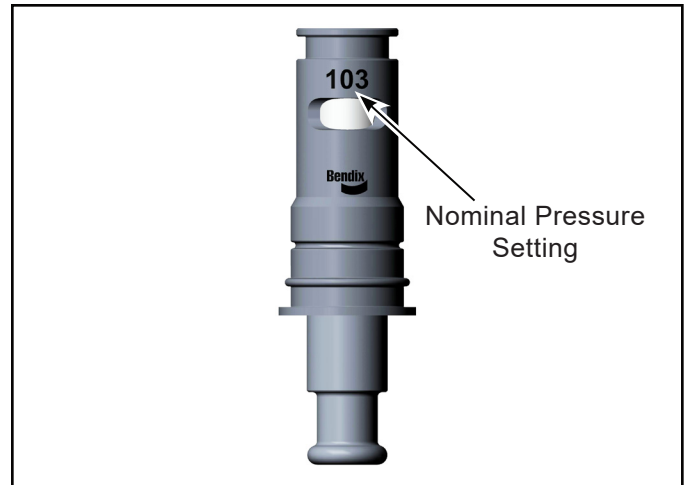

Figure 3 - CPPV Pressure Setting
1. Lubricate the o-rings (1 and 3) with the supplied grease (6). **Note:** Use only the grease packaged with this kit.
2. Install the smaller o-ring (1) into the groove on the upper portion of the CPPV body (2). Install the larger o-ring (3) into the groove on the lower portion of the CPPV body (2).
3. See *Figure 3*. **Note** the nominal opening pressure of each CPPV included in this kit and install each CPPV in the appropriate bore as recorded in step 3 of the disassembly procedure.